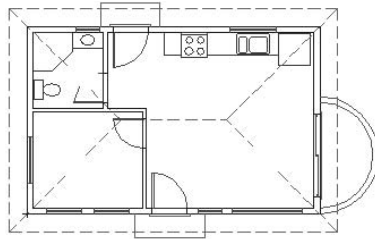

FIGURE 12.14: The view with selected layers frozen
4. The drawing will look like Figure 12.14. Use the Pline command to draw a deck across the front of the cabin that extends down 10'. (The Polyline command was introduced in Chapter 10.)